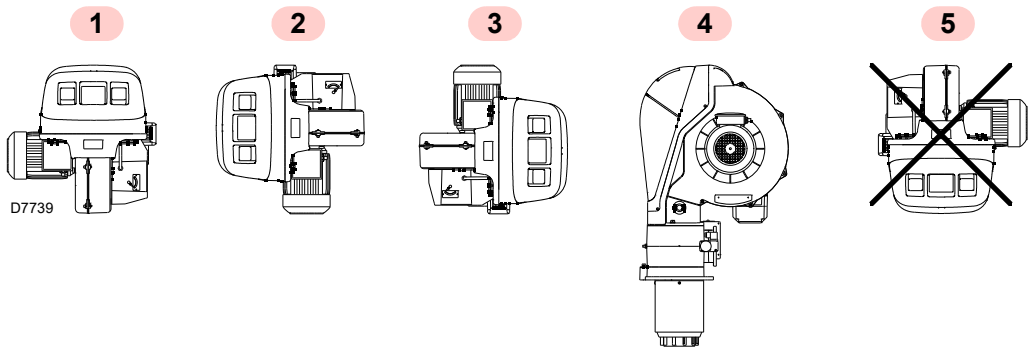

Fig. 10
- The burner is designed to operate only in positions 1, 2, 3 and 4 (Fig. 10).